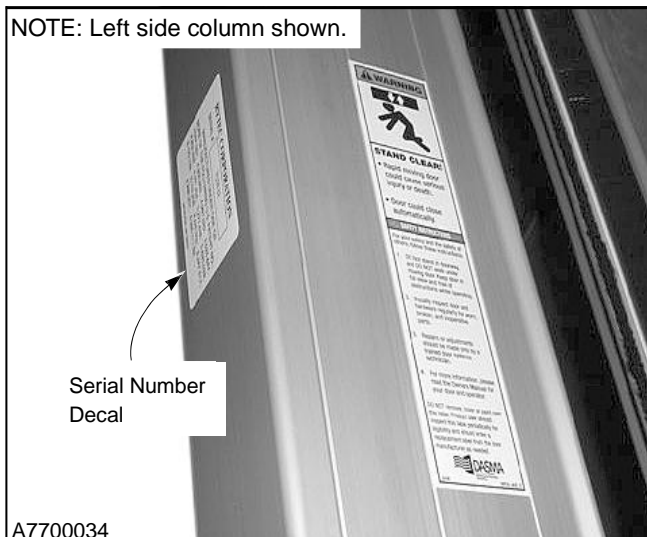
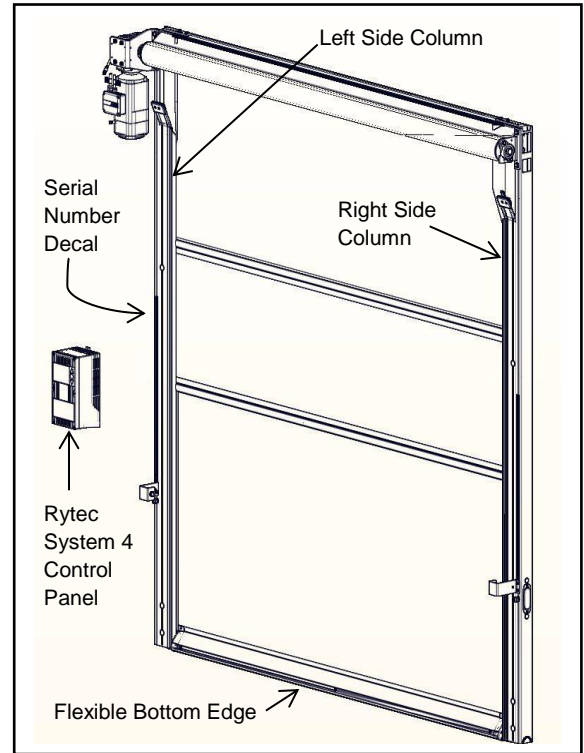

Figure 1
Figure 2
If you have any questions, contact your Rytec representative or call the Rytec Technical Support Department at 800-628-1909. Always refer to the serial number of the door when calling the representative or Technical Support. The serial number plate is located on the small edge of the left side column. (See Figure 1.)
Your **DOOR SERIAL NUMBER** information can be found in three universal locations. These are at the small edge of the left side column (shown in figure 1), on the drive motor, and inside the System 4 control panel. (See Figure 2.)
5. The Rytec control box and a fusible disconnect should be installed prior to the start of the door installation. (See Figure 1 for layout.)